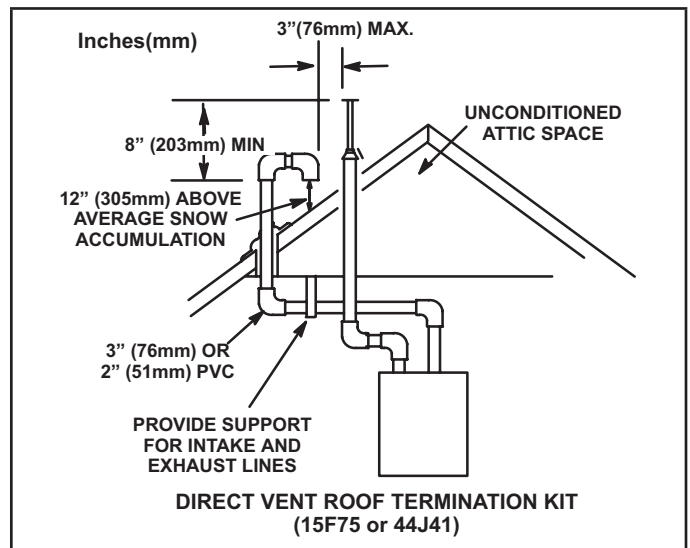

FIGURE 30
- 3 - On roof terminations, the intake piping should terminate straight down using two 90° elbows (FIGURE 30).